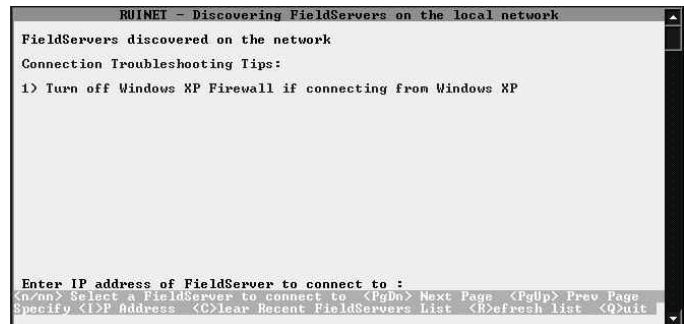

Figure 12: RUINET PT-Link Specify IP Address
4.) The following screen may appear (**Figure 12**). Type  for Specify IP Address and the message "Enter IP Address of the Field Server to Connect to" will appear on the screen.